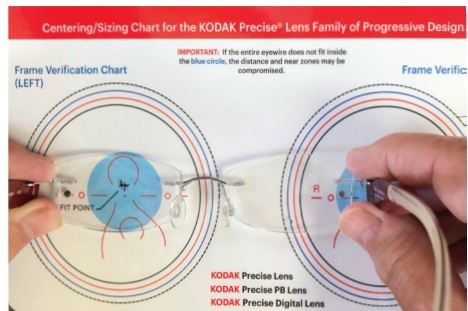

FIG. 3
**Multifocal lens cutout:** When choosing a frame for a progressive wearer, it is ideal if there is a minimum of 10 mm above the pupil center to the top of the lens, and the reading reference circle is inside the eyewire. Use the manufacturer's layout chart (Fig. 3) to ensure there is at least 10 mm above the fitting cross for a PAL lens design, and then confirm that the near reference circle in the lower part of the lens isn't cut off. Use a marking pen to draw a cross on the demo lens that intersects at the marked pupillary center location in the lens. These lines should perfectly bisect the patient's pupil when the frame is worn. You should also confirm that the lens "b" measurement accommodates the minimum fitting height for the chosen progressive lens design.